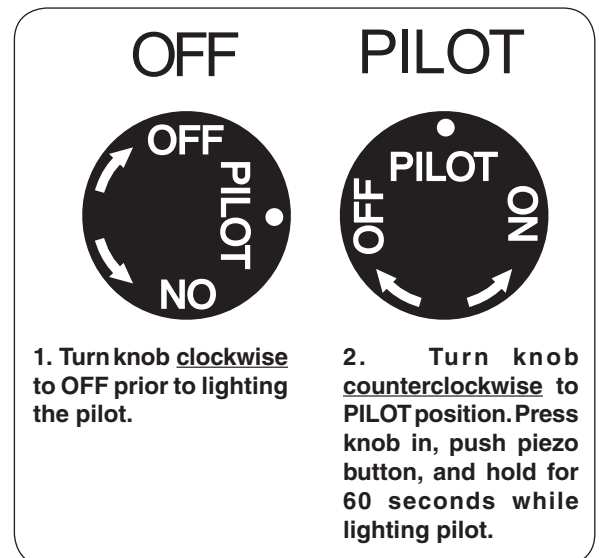

Fig. 11-1 Control knob detail (OFF, PILOT)
1. Locate the valve on the side of the unit. Push in the gas control knob slightly and turn clockwise to **OFF** (Fig. 11-1).
2. Turn the control knob counterclockwise to **PILOT** (Fig. 11-1). Push the control knob **firmly and fully** in and hold. Hold a long fireplace match or lighter near the thermocouple to light the pilot. Continue to hold the control knob in for approximately 60 seconds after the pilot is lit, then release the knob. The pilot will remain lit.